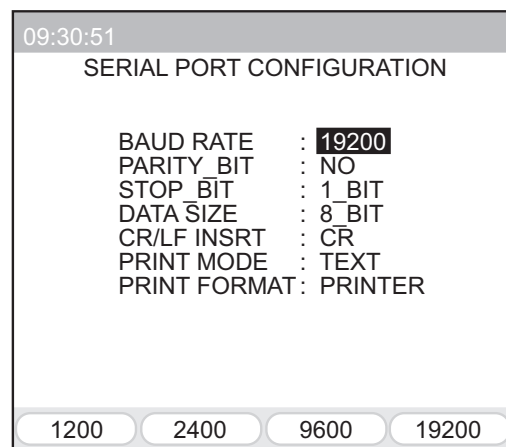

Figure 11 Serial Port Configuration
2. Refer to Figure 11 and the following: